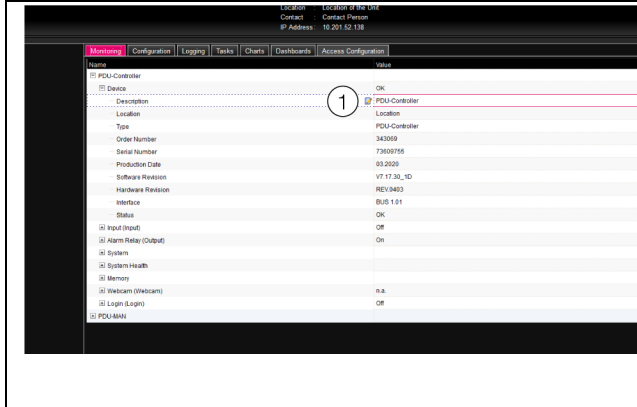

Fig. 54: Editable parameter with "Edit" symbol
placed in the relevant line (fig. 54, item 1).